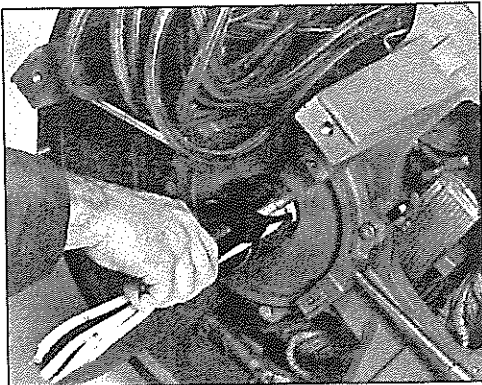

Figure 6-65
1. Install inboard snap ring (430 frame generators) and loading spring on shaft (figure 6-65).